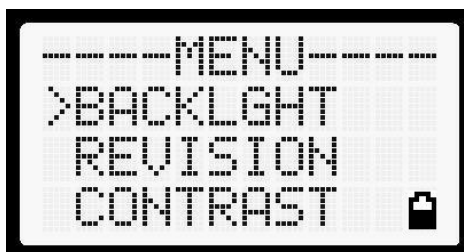

Figure 7-6: Menu Display
2. Upon entering the menu selection mode, menu options appear in the display (see Figure 7-6).